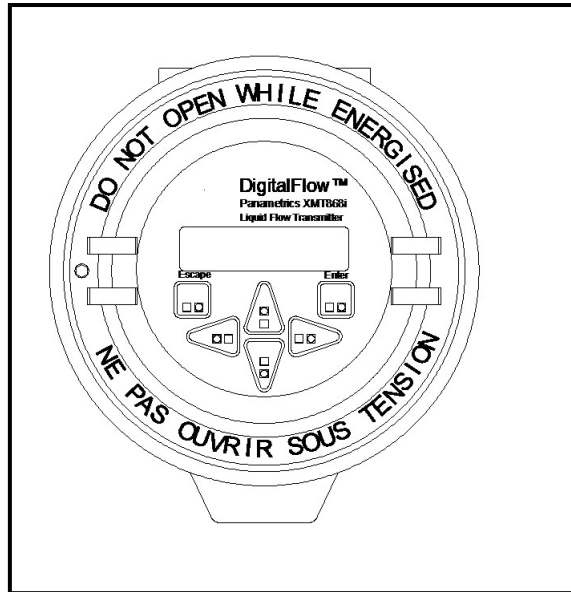

Figure 1: XMT868i Enclosure Screen
- The infrared keypad (shown in *Figure 1 on page 2*), which permits direct communication with the XMT868i
Along with the 2-line, 16-character LCD, the XMT868i includes a 6-key infrared keypad. The decal cutout for each key contains an infrared transmitter LED, an infrared phototransistor and a visible red LED. If an operator presses his finger or other reflective object against the glass, directly over a key, infrared light from the emitter is redirected back through the enclosure window to the sensor. Use the infrared keypad to navigate through the user program. The menu map may be followed in sequence, or the four arrow keys may be used to scroll through the prompt screens. *Figure 1* shows the front of the XMT868i, with the infrared keypad.